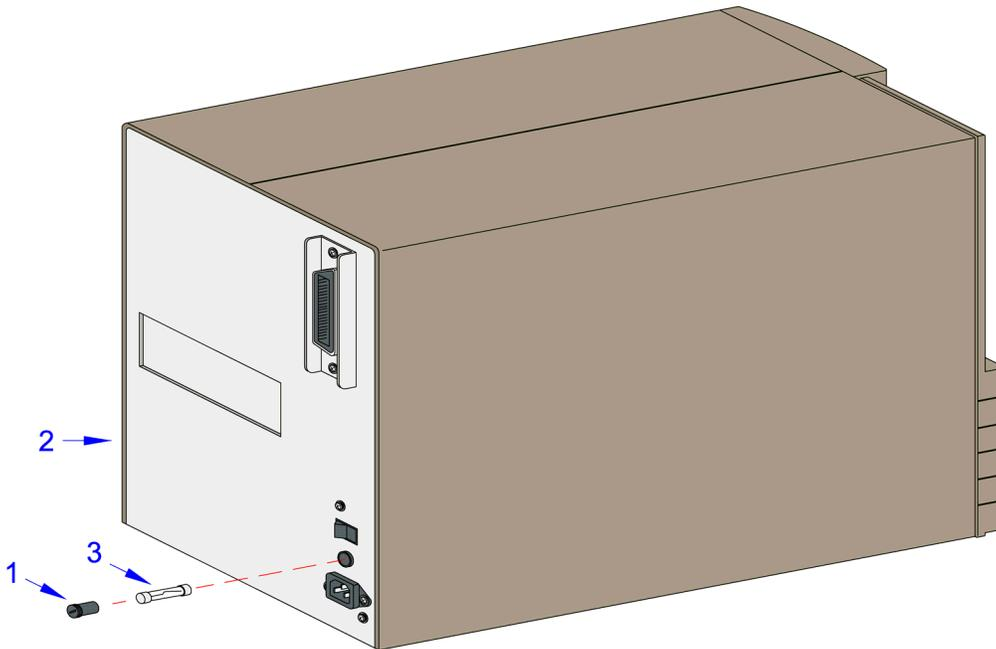

Figure 7-15, Fuse Replacement
2. Unscrew fuse cap (1, Figure 7-15) from fuse cylinder (2) located on rear housing cover (3).
3. Withdraw damaged fuse (4) from fuse cap (1) and insert replacement fuse (4) in its place.
4. Insert replacement fuse (4) into fuse cylinder (2) and screw on cap (1).